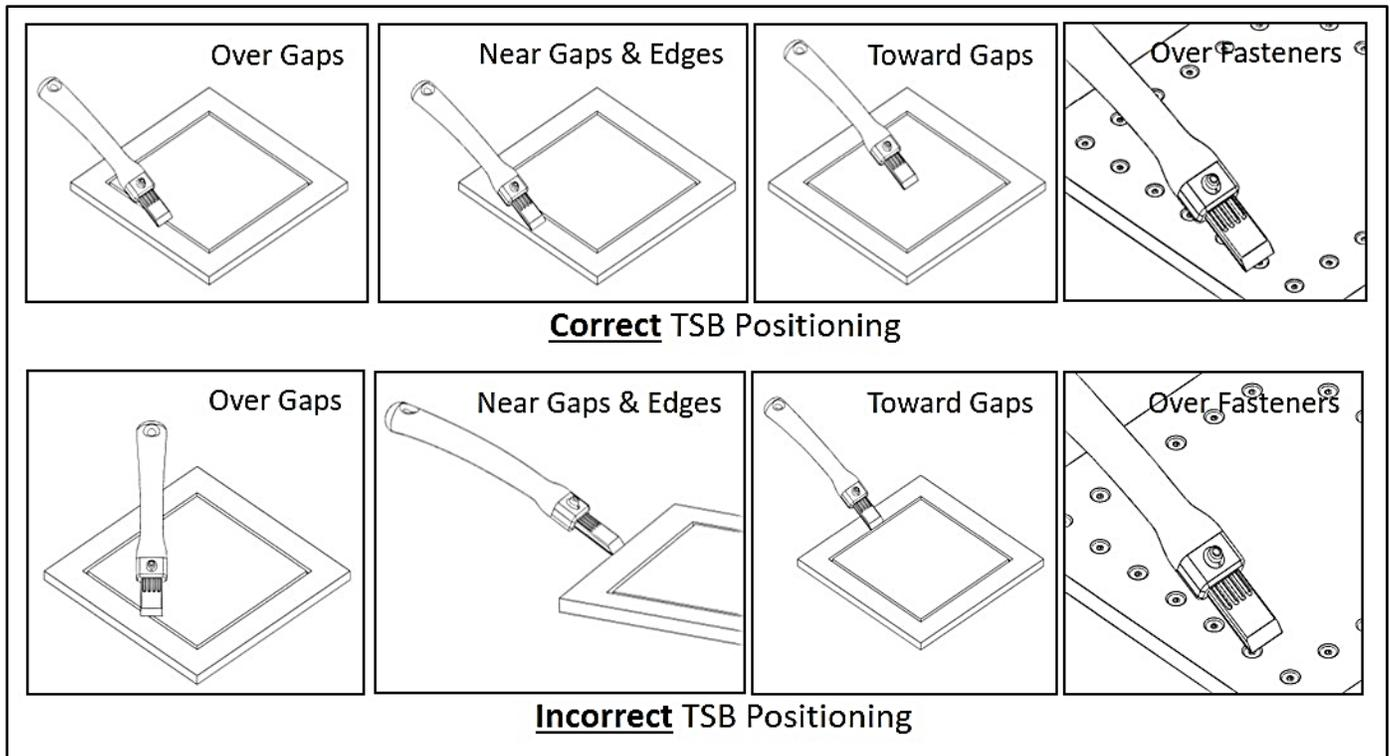

Figure 4. Material Removal Using TSB
3.1.4. Ensure proper positioning of the TSB and proper direction of material removal when removing materials near edges of structures, gaps and fasteners. Care must be taken to avoid blade contact with composite structure edges during initial blade engagement with the coating, boot or tape and during removal. When near part edges, removal should proceed parallel to the edges. Blades should span gaps and fasteners. See **Figure 4**.